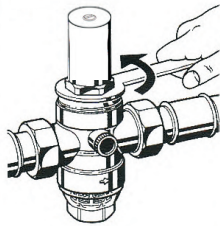

Fig. 5
4. Remove bonnet (fig 5). Using spanner.